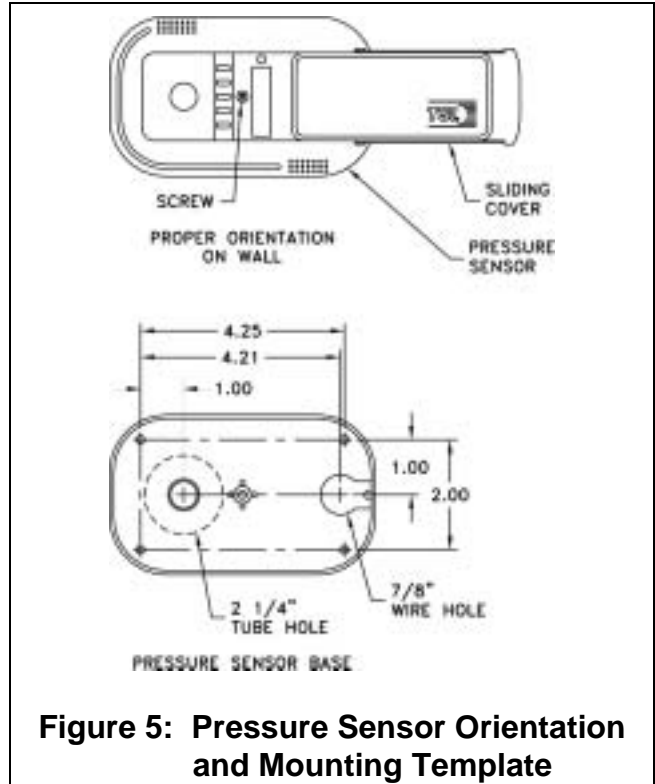

Figure 5: Pressure Sensor Orientation and Mounting Template
- 2) The pressure sensor must be orientated on the wall as shown in Figure 5. Looking at the mounted sensor, sensor hole is on the left (2 1/4") and wire hole is on the right.
- 4) Drill a 7/8 inch hole on the side of the wall that the pressure sensor will be mounted. This hole is for the six-conductor sensor cable. Refer to Figure 5 for a hole mounting pattern.
- 5) Slide sensor cover to right and remove screw that holds the sensor base to the pressure sensor (Figure 5). Remove pressure sensor and store in a safe place.